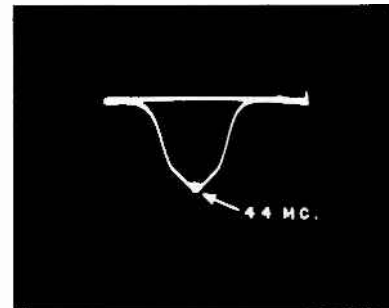

Fig. 15 3rd IF Response
6. As a preliminary adjustment for the 3rd IF, turn the bottom slug half way into its coil and the top slug completely out of its coil. Alternately adjust the top and bottom slugs until a pattern somewhat similar to Fig. 15 is obtained. When the tuning slugs are properly positioned each slug will move both humps of the response curve.